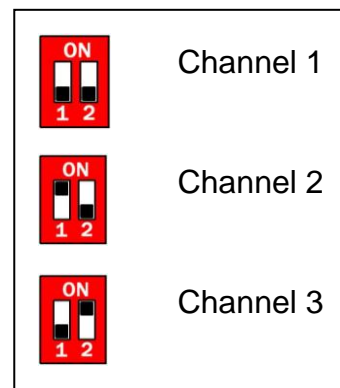

Fig. 18
14. There is a channel select switch on the circuit board and the remote control. The remote control must be set to the same channel (1, 2 or 3) as the robot to be able to control it. If you are playing with your friends, each must choose a different channel so that one will not interfere with the other units. (Fig. 18)